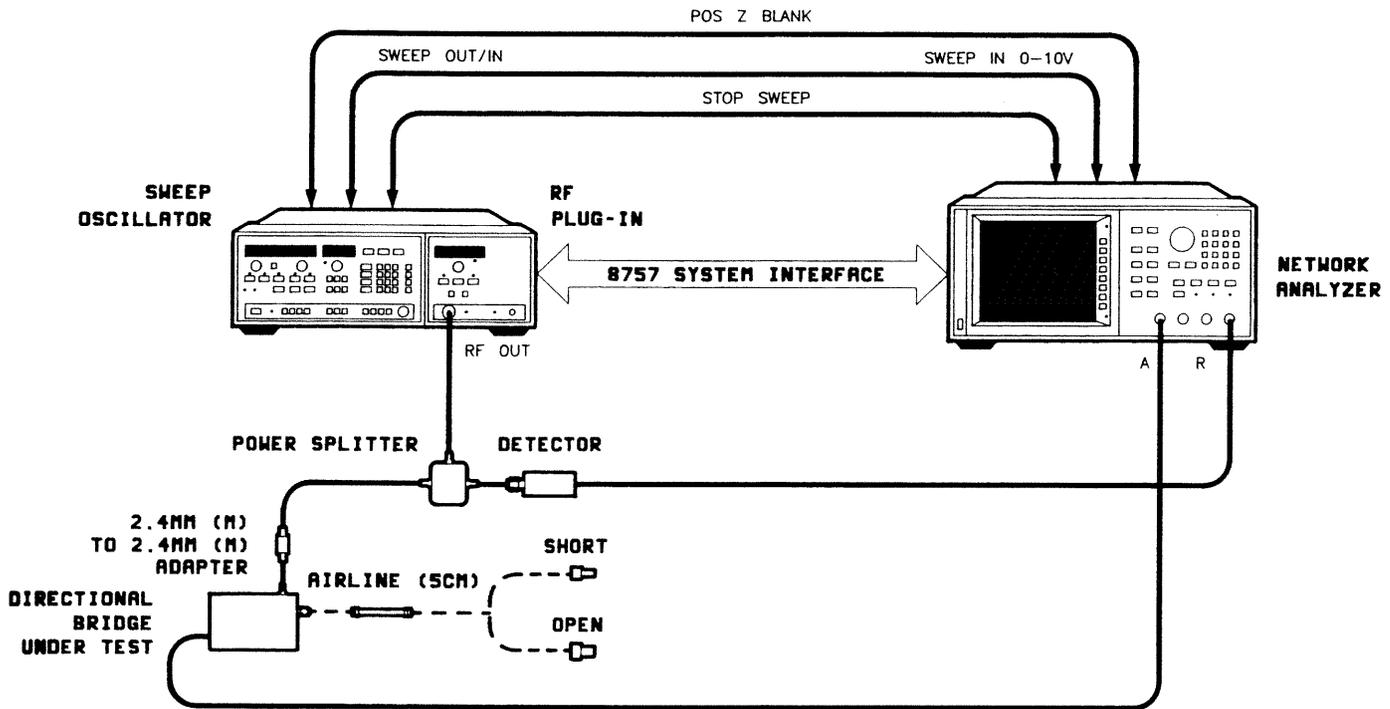

Figure 4-6. Test Port Match Test Setup
1. Connect the equipment as shown in Figure 4-6. Allow 30 minutes warm-up. Set the bridge configuration switch to **HP 8757**. Press **[PRESET]**, both the analyzer and the source will reset.